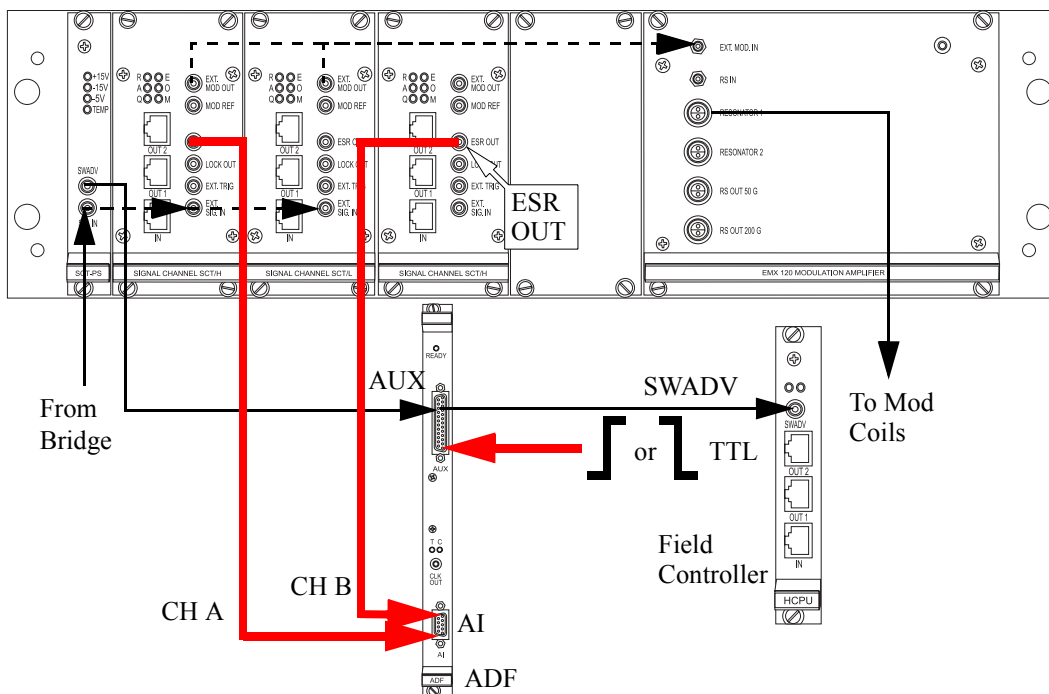

Figure 14-24 Configuration for triggered sweeps with quadrature detection using the ADF.
1. **Cable connections.** Connect the two ESR OUT signals from the two identical signal channels to Channel A and Channel B of the AI connectors on the ADF board. (See Section 13.7.2 for the pin lay out of the AI connector of the ADF board.) You can use the cable labeled ADF ENDOR on the AI connector as Channel B. You also need to send a TTL trigger pulse to the cable labeled Ext. Trigger from the AUX connector on the ADF board. (See Figure 14-24.)